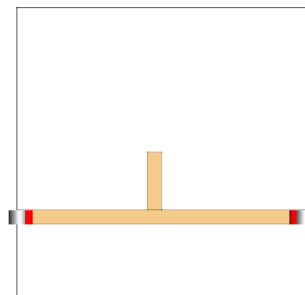
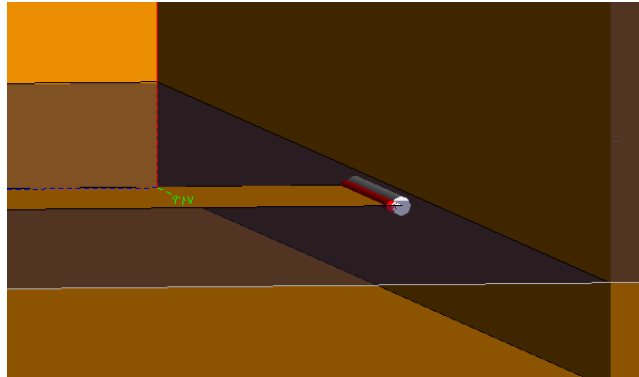

Figure 91: Microstrip ports were added to the edges of the feedline. Note that the infinite plane is hidden and a cutplane was added to show the port locations.
Figure 92: Zoomed in 3D view of one of the microstrip ports.
7. Add microstrip ports to the edges of the feedline (see Figure 91 and Figure 92).